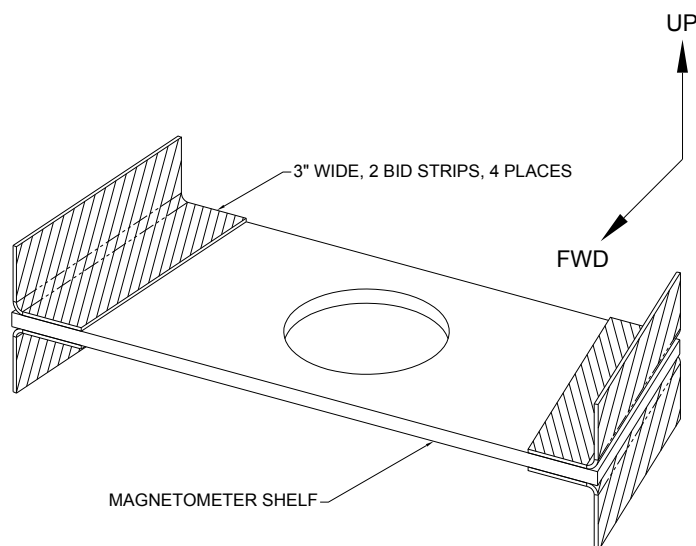

Figure A-23 Magnetometer Shelf With Lay up
5. Secure the shelf to the fuselage with one layer of 3.0 in. wide, 2 bid strips at each corner above and below the shelf. The lay up is shown in Figure A-23.